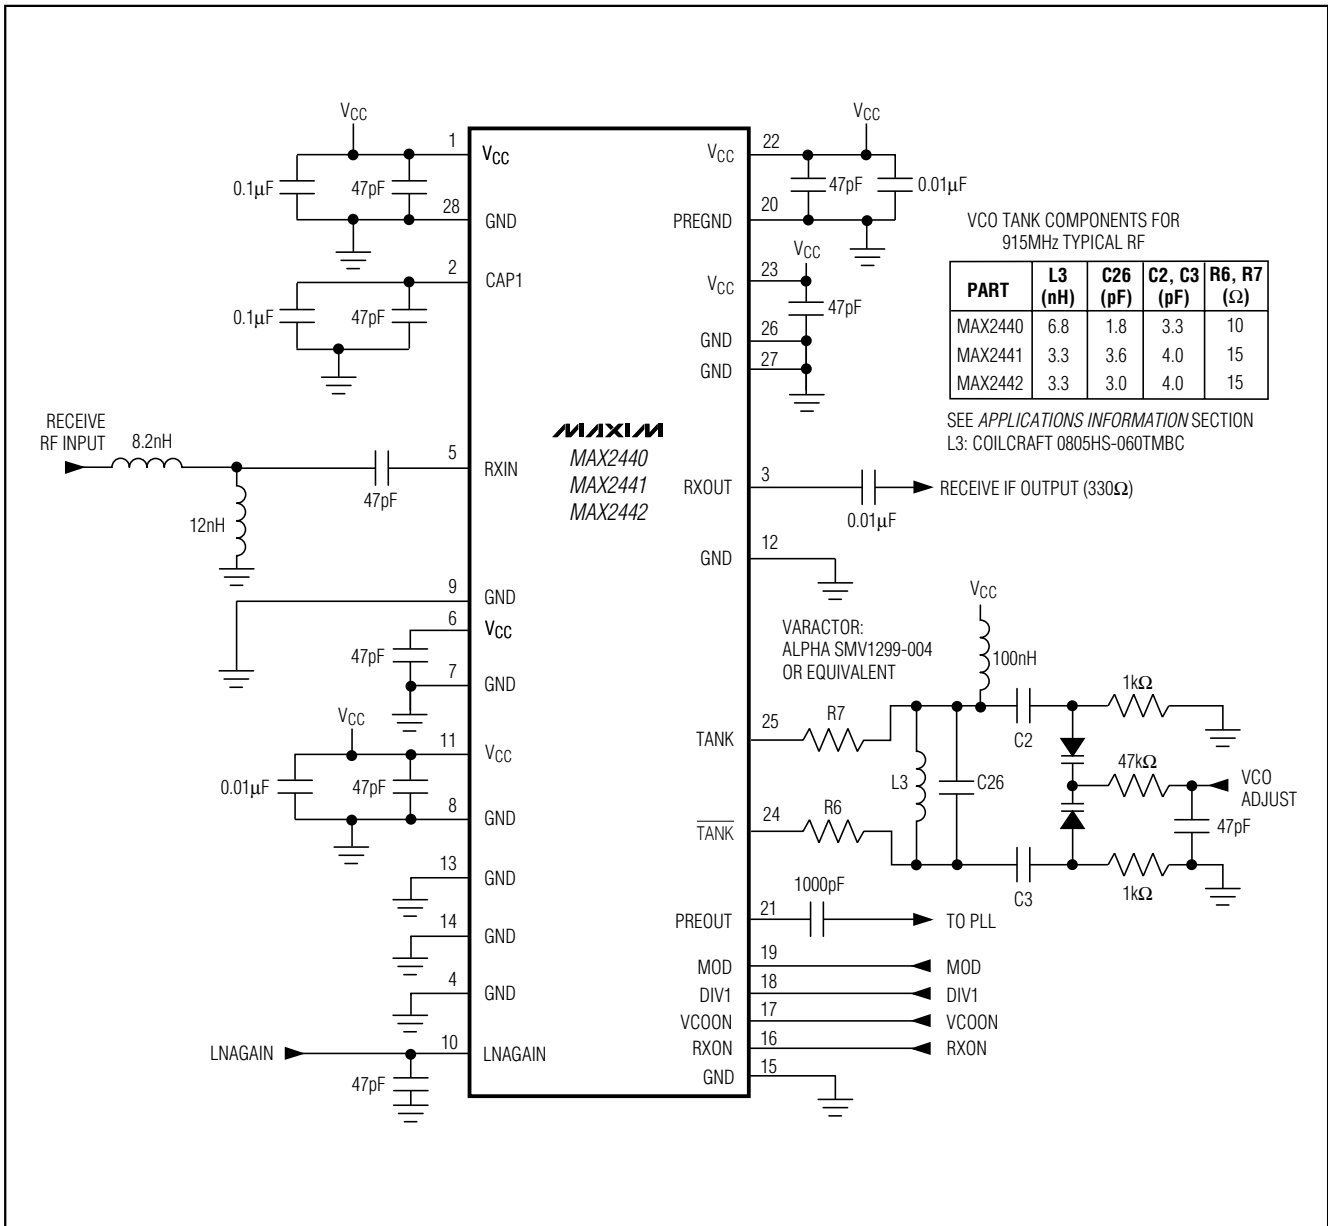

Figure 1. Typical Operating Circuit
**Note 10:** Refers to useable operating range. Tuning range of any given tank circuit design is typically much narrower (refer to Figure 1).